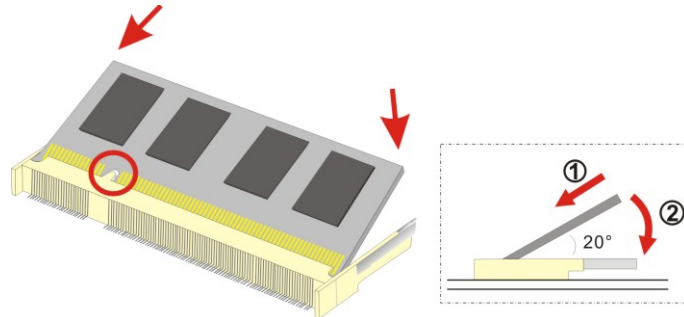

Figure 7-2: SO-DIMM Installation
Step 4: Align the new SO-DIMM with the socket. The SO-DIMM must be oriented in such a way that the notch in the middle of the SO-DIMM must be aligned with the plastic bridge in the socket (Figure 7-2).
Step 5: Insert the SO-DIMM. Push the SO-DIMM chip into the socket at an angle (Figure 7-2).
Step 6: Open the SO-DIMM socket arms. Gently pull the arms of the SO-DIMM socket out and push the rear of the SO-DIMM down. (See **Figure 7-2**)